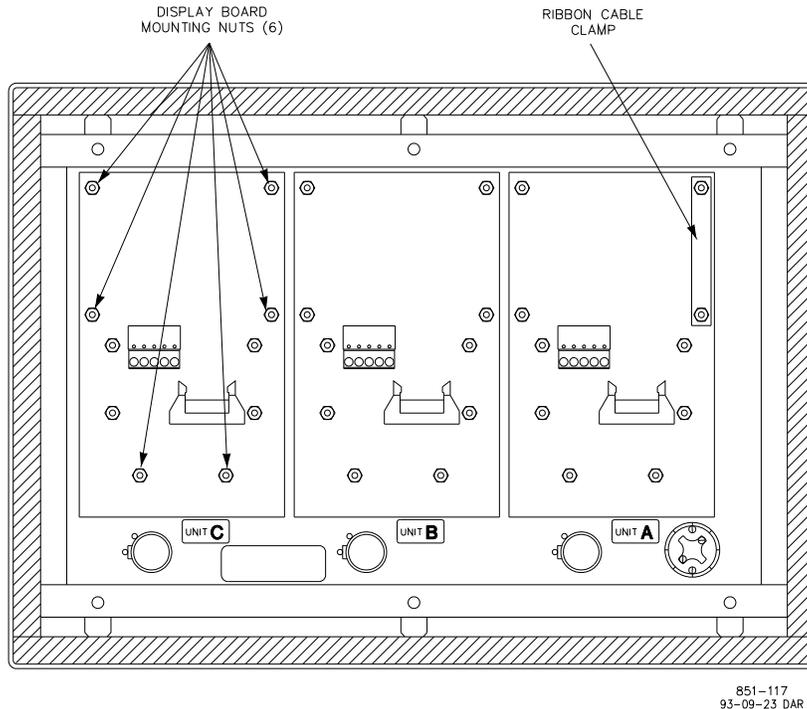

Figure 5-4. Display Boards
1. Insert and position the new display board in place (Figure 5-4).